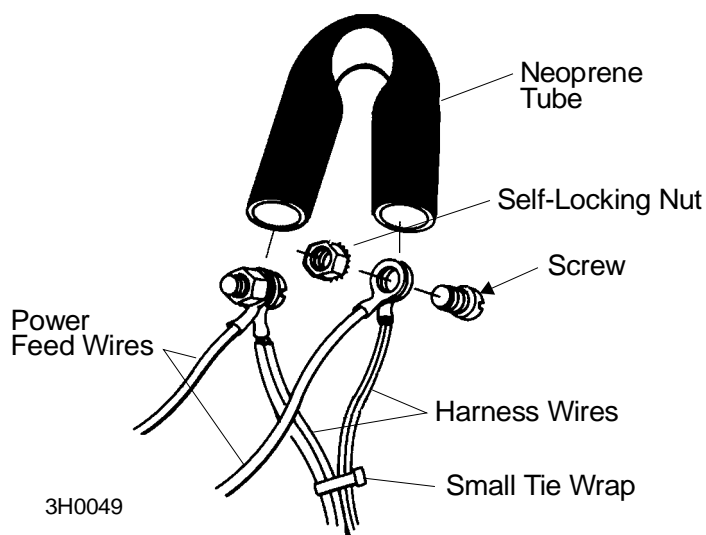

FIG. 1-8
See Figure 1-8. To connect, bundle the two harness wires together with the small tie wrap. Connect the blue power feed wire to the red harness wire with a screw and a self-locking nut. Connect the green power feed wire to the black harness wire with a screw and a self-locking nut. Slip one end of the neoprene tube around each wire/harness connection. Secure the tubing around the connections with the large tie wrap.
5. Install the long harness through the control box grommet. Use the small tie wrap to bundle the two harness wires together as shown. Connect the blue power feed wire to the red harness wire with a screw and a self-locking nut. Connect the green power feed wire to the black harness wire with a screw and a self-locking nut. Slip the supplied neoprene tube around both wire/harness connections as shown. **See Figure 1-8.** Keeping the tubing folded tight, use a large tie wrap to secure the bundled connection to the yellow, red and brown wire harness in the control box. Tuck the excess length of wires into the left front corner of the control box and replace the control box cover.